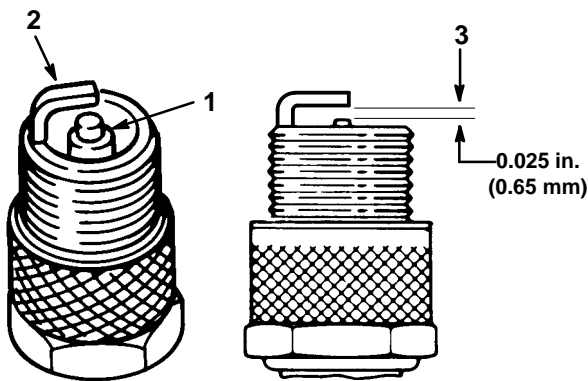

Figure 29
1. Look at the center of the spark plug(s) (Fig. 29). If you see light brown or gray on the insulator, the engine is operating properly. A black coating on the insulator usually means the air cleaner is dirty.
2. Check the gap between the center and side electrodes (Fig. 29). Bend the side electrode (Fig. 29) if the gap is not correct.